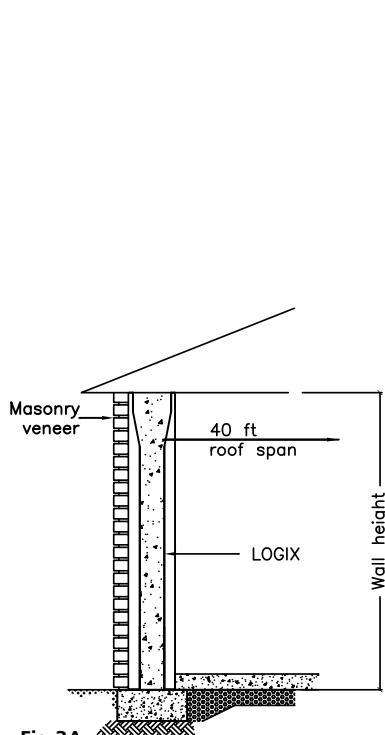
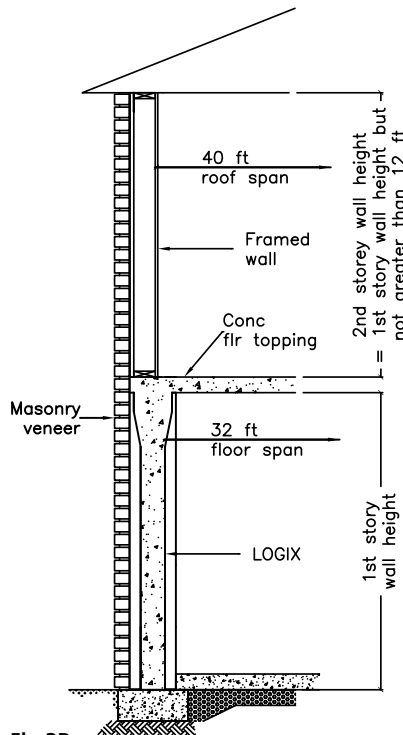
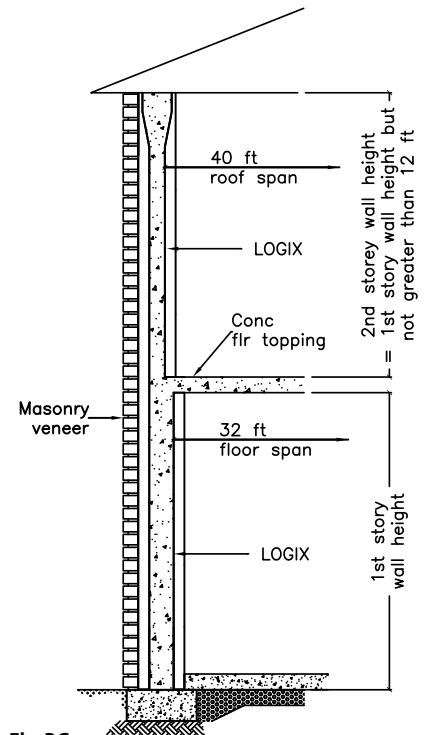

Fig 3A
Fig 3B
Fig 3C
- One storey LOGIX supporting wood roof frame (Fig. 3A)
- One storey LOGIX supporting 2nd storey wood frame plus wood roof frame (Fig. 3B)
- Two storey LOGIX supporting wood roof frame (Fig. 3C)
The above-grade tables shall be used in conjunction with the notes listed below, the building limitations noted in the "Reinforcement Tables", "Helix TSMR Tables - Alternative to Rebar Reinforcement Tables" section, and Figures 3A to 3B, which form the basis of this table.
- Table shall be read in conjunction with Fig 3A, Fig 3B, Fig 3C, and section "NOTES FOR ABOVE-GRADE WALL TABLES."